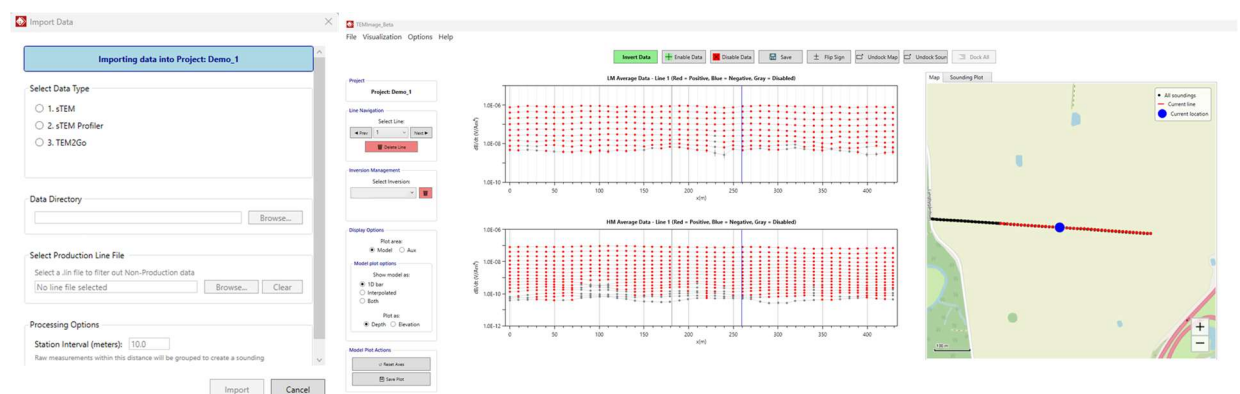

Figure 4: Import data window (left) and overview of the home screen after importing (in this case) TEM2Go data (right).
Once the database file is created, an **Import Data** window will appear (Figure 4). Here, you must:
After import, both **Low Moment (LM)** and **High Moment (HM)** data displayed, along with a map showing the location of your acquired measurements (Figure 4). All GPS data allocations are shown on the map in black. The currently highlighted line is displayed in red. This setting can be modified by **right-clicking on the map** and using the **Map Settings** option.